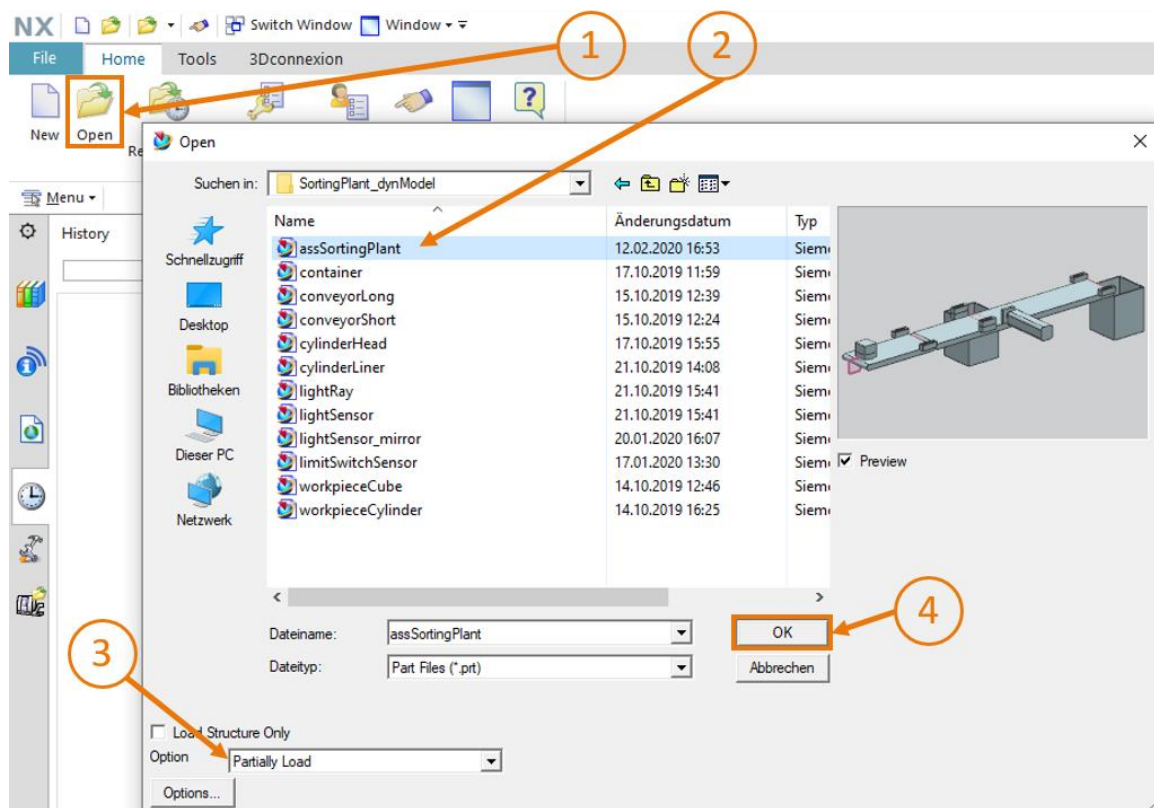

Figure 4: Opening an assembly in NX
- Start NX and wait until the program opens and you see the Home page. Click the "**Open**" button (see Figure 4, step 1) and navigate to the folder you created beforehand. You now see the parts used in Module 5. Select the "**assSortingPlant**" assembly, which contains the full dynamic 3D model of the sorting plant (see Figure 4, step 2). Select the "**Partially Load**" option (see Figure 4, step 3) so that only the models and dynamic properties of the individual components of the assembly are loaded but not any additional drawings or coordinate systems. Finally, confirm your selection by clicking on "**OK**" (see Figure 4, step 4).